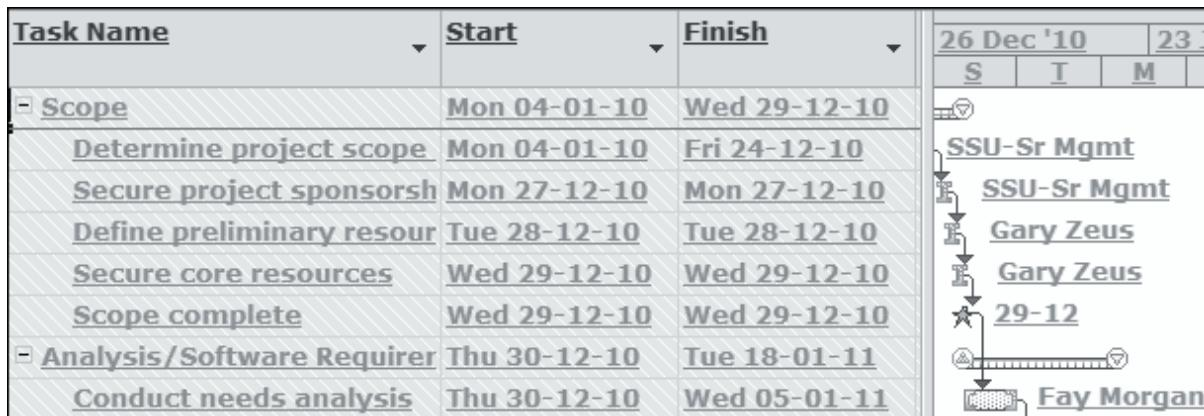

Figure 14.5: Outcome of Gantt Chart View with Customized Text Styles
7. Click **OK** to apply the text formatting to the current view as shown in figure 14.5.